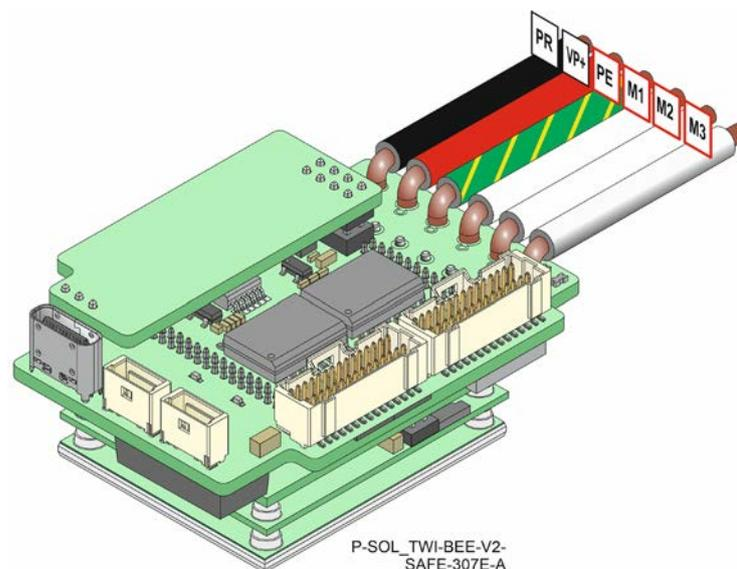

Figure 12: Connecting the Motor Power Wires
4. Connect the motor power wires as shown in Figure 12. The green/yellow wire is the Grounding wire. Make sure not to bundle the wires.